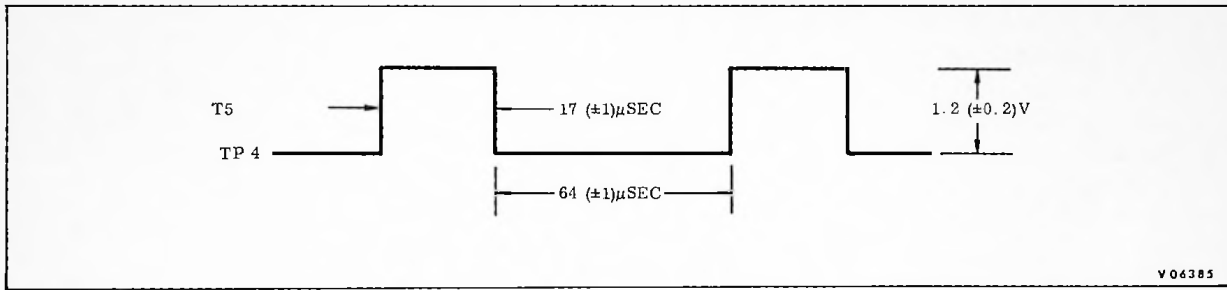

Figure 5.2-5. Timing Generator Output, T5
- e. Connect the probe to TP5, board 7. The waveform should resemble that shown in Figure 5.2-5. T5 should be high during the vertical interval.